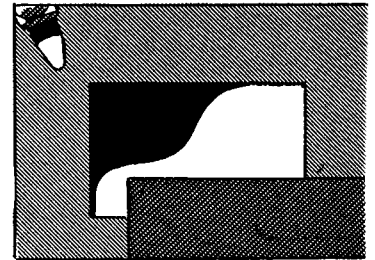

FIG. 493
2. Move the work over to the right of the tool (Fig. 493).